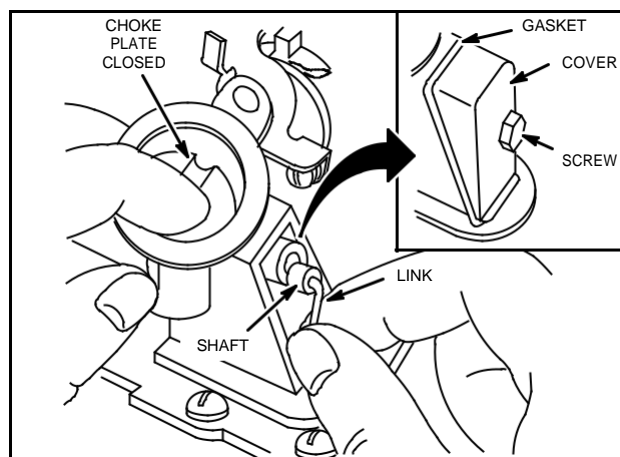

Fig. 244 - INSERTING CHOKE LINK
5. Close choke plate. Insert choke link into choke shaft as shown, Fig. 244.
3. Move choke plate to normal closed position. Choke plate should now remain fully closed, Fig. 244.